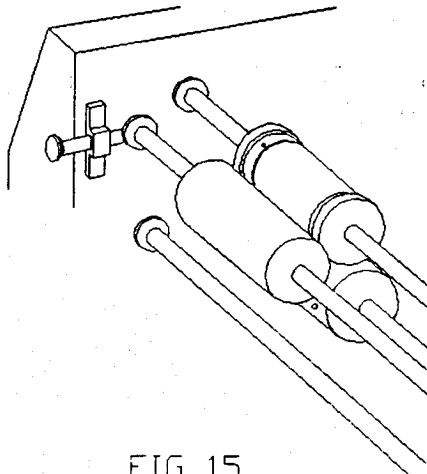

FIG 15
6. Loosen Setscrews on Platen Cylinder (If the Setscrews are not in plain view, use the Handwheel to bring them into plain view). Horizontally align the Platen Cylinder with the Signature area on the Check. Tighten Set Screws. (Fig. 15)